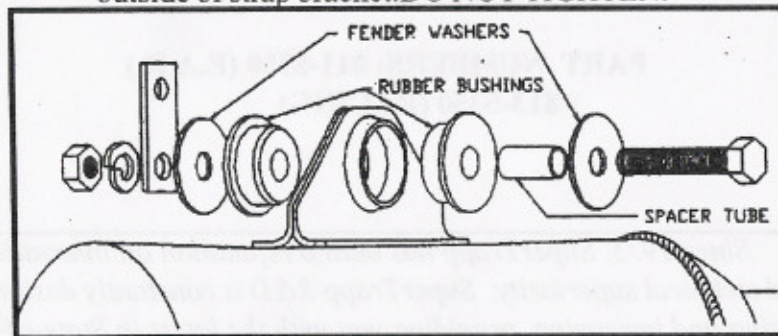

FIGURE 1
5. Assemble vibration mount on silencer (FIGURE 1) and attach to outside of strap bracket. **DO NOT TIGHTEN**.